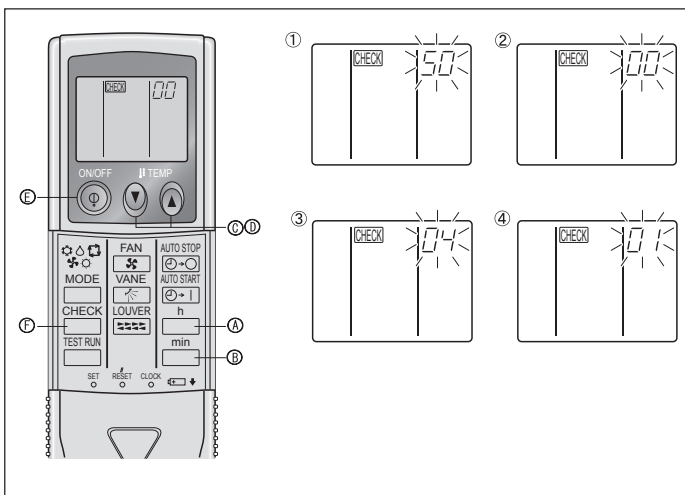

Fig. 6-9
⑧ Press the MODE button \ominus and mode and the setting number (I) and (II) will change to being on constantly and the contents of the setting can be confirmed.
⑨ Press the FILTER Δ and TEST RUN \ominus buttons simultaneously for at least two seconds. The function selection screen will disappear momentarily and the air conditioner OFF display will appear.
2) For wireless remote controller (Fig. 6-9)